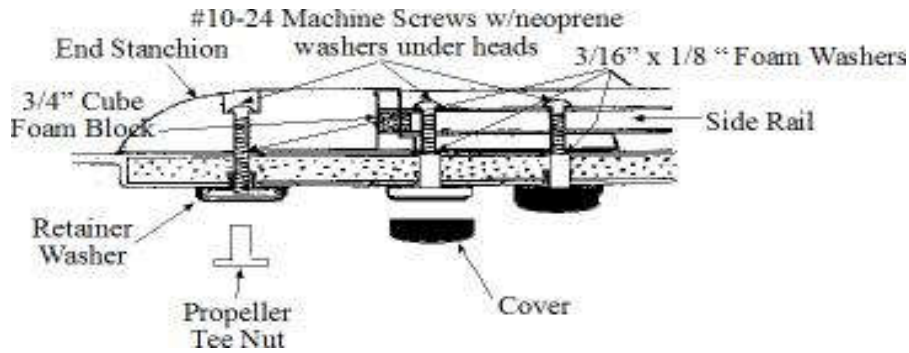

Fig. 3
**For installing outside core area or in surfaces less than 1/2" thick** (this method requires two people in most Instances; Fig. 3):